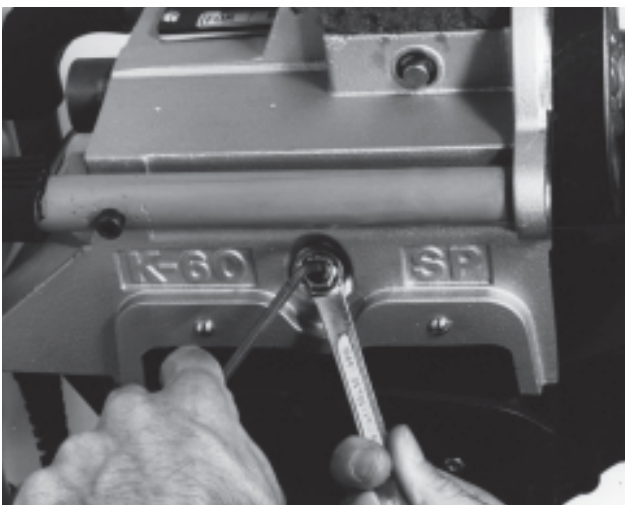

Figure 14 – Tighten Jam Nut
7. While holding the set screw in place with the 3/16" hex key, tighten the jam nut (Figure 14).